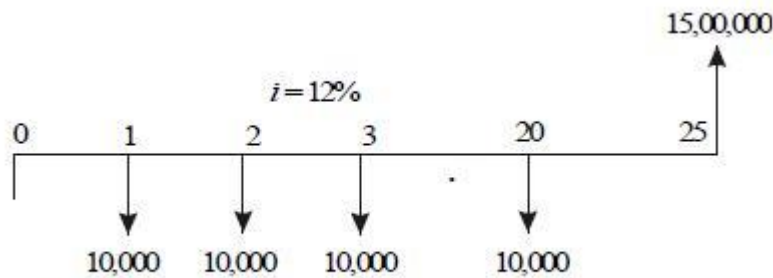

Fig. 4.14 Cash flow diagram for Innovative Investment Ltd.
*Innovative Investment Ltd's plan.* The cash flow diagram of the Innovative Investment Ltd's plan is illustrated in Fig. 4.14.